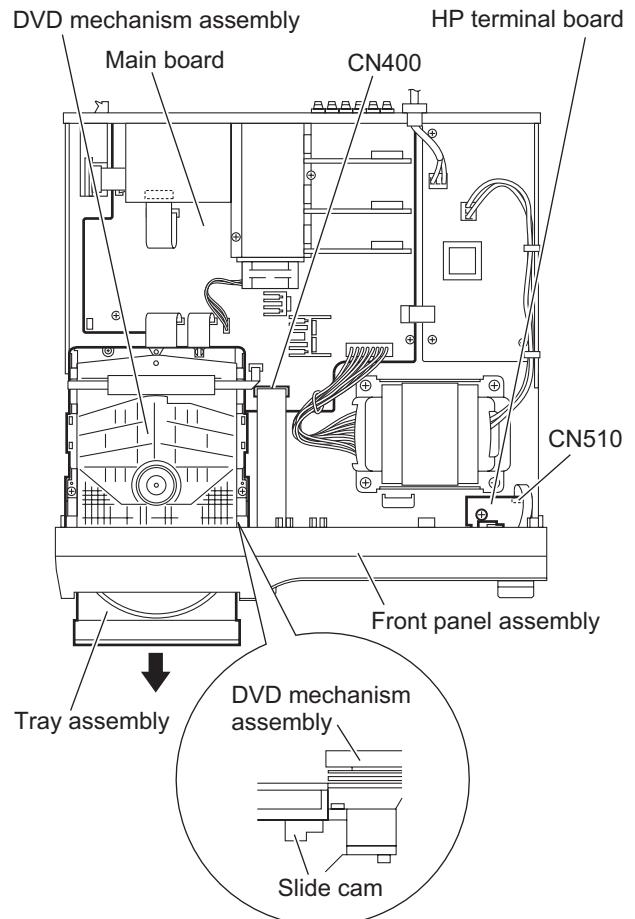

Fig.5
(See Figs.5 to 7)
- (1) From the right side of the DVD mechanism assembly, push the slide cam and pull the tray assembly out of the main body in the direction of the arrow. (See Fig.5.)
- (3) From the top side of the main body, disconnect the card wire from the connector CN400 on the main board. (See Fig.5.)
- (4) Disconnect the card wire from the connector CN510 on the HP terminal board. (See Fig.5.)
(See Figs.5,6 and 8)